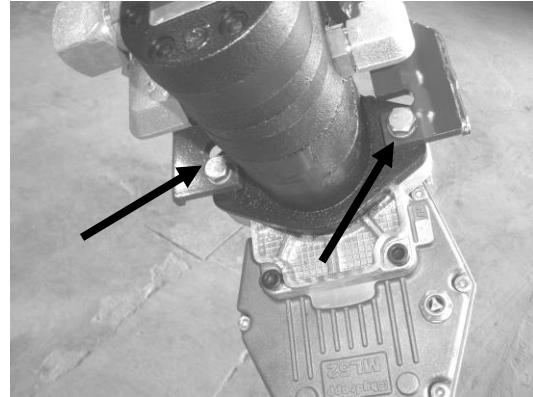

Figure 4—Remove the two fasteners shown to disconnect the hydraulic pump from the increaser.
1. Remove the two fasteners that secure the pump to the increaser. See **Figure 4**.